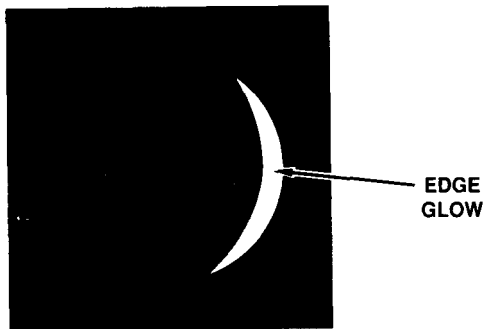

Figure 2-13. Edge Glow.
b. Edge Glow. Edge glow is a bright area (sometime sparkling) in the outer portion of the viewing area (see Figure 2-13). To check for edge glow the operator can block out all light by cupping a hand over the objective lens. If the image intensifier